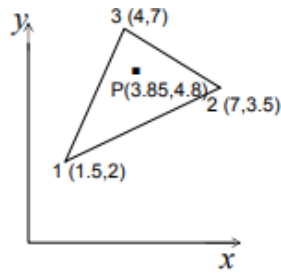

Fig. 4
- b) Evaluate the shape functions N_1, N_2, N_3 at the interior point for the triangular element Shown in fig.4.